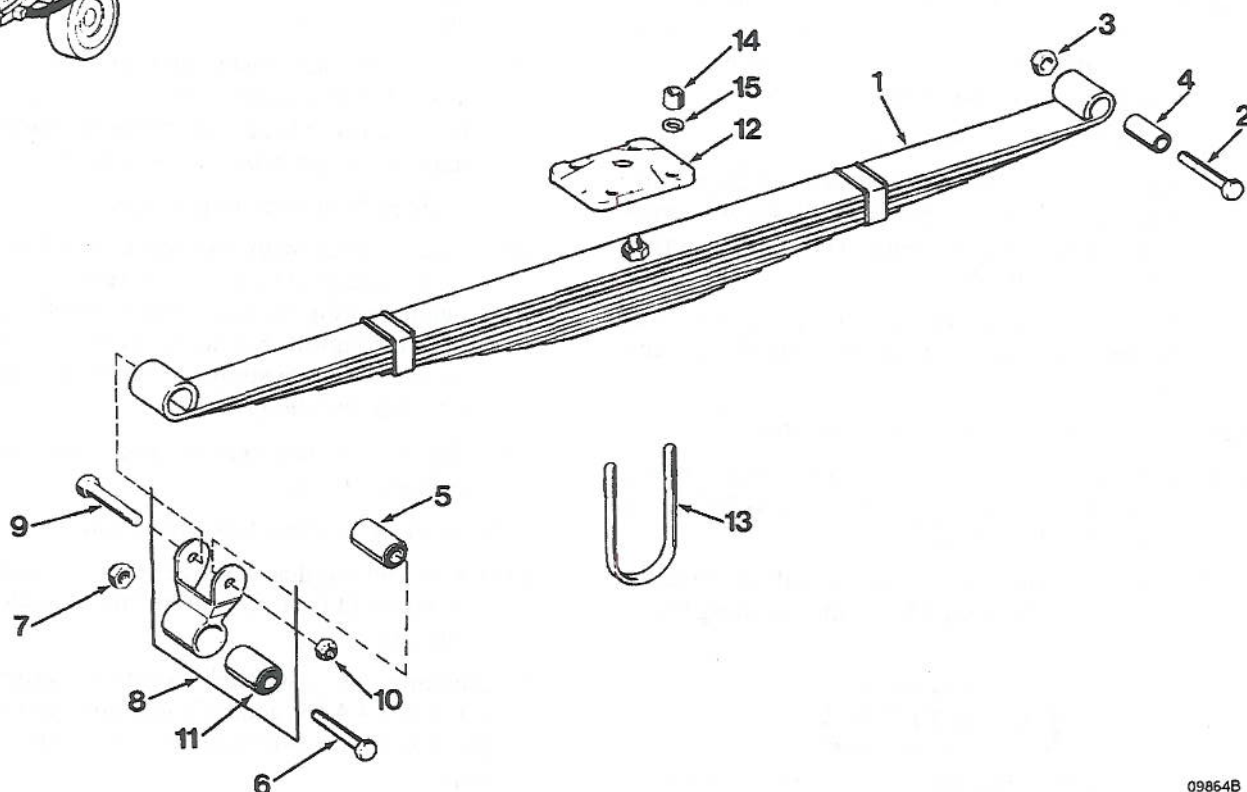
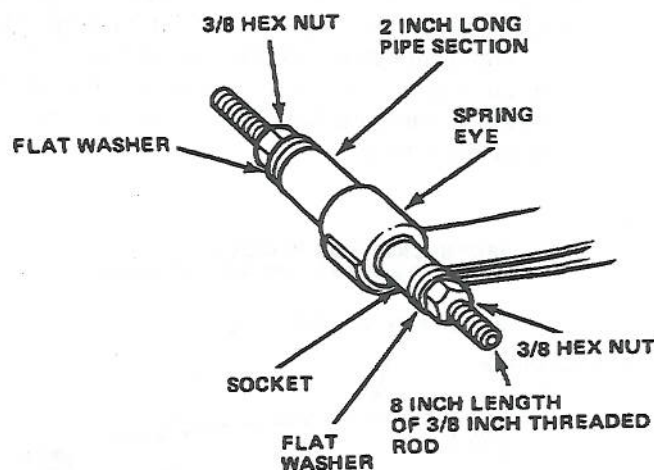
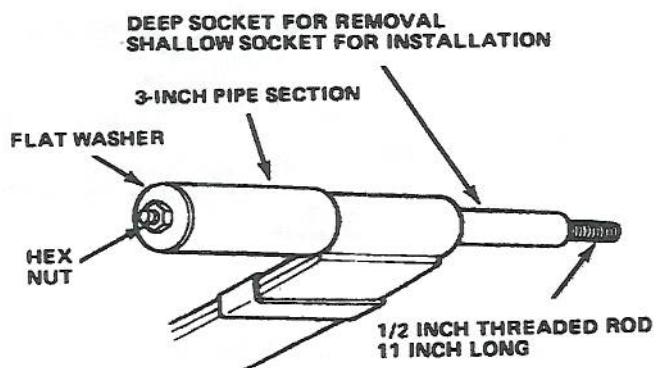

Figure 5-125. Rear Spring Group
Figure 5-126. Bushing Replacement Tools-Small Bushing
Figure 5-127. Bushing Replacement Tools
- (11) Refer to figure 5-126 to remove small bushing (4, figure 5-125) from rear spring as follows in steps (12) through (20).
- (12) Insert a 3/8 inch by 8 inch length of threaded rod through front bushing (4). Center bushing (4) on rod.
- (15) Install 2 inch length of pipe with diameter large enough to accommodate bushing (4), but small enough to seat firmly against spring (1) eye, on opposite end of threaded rod. Pipe will serve as bushing receiver.
- (16) Install one flat washer and one hex nut on rod to hold pipe section in place. Flat washer must be of large enough diameter to support and maintain alignment of pipe section.
- (17) Tighten both hex nuts, finger tight.
- (18) Align socket with bushing (4) and align pipe with spring (1) eye. Socket will act as a press ram and press the bushing (4) out of the spring (1) eye and into the pipe.
- (19) Tighten nut at socket end of spring eye until bushing (4) is pressed out of spring (1) eye into pipe.
- (20) Remove bushing tools and bushing (4).
- (21) Refer to figure 5-127 and remove large bushing (5, figure 5-125) from rear spring as follows in steps (22) through (30).
- (22) Insert 1/2 inch by 11 inch length of threaded rod through bushing (5). Center bushing (5) on rod.
- (1) Refer to figure 5-127 and install large bushing (5, figure 5-125) as follows in steps (2) through (10).
- (2) Center bushing (5) on 1/2 inch by 11 inch length of threaded rod. Slide 3 inch length of pipe over bushing (5). Pipe must be of diameter that will seat firmly against the spring (1) eye.
- (3) Place shallow socket of diameter small enough to pass through the pipe section, but large enough to bear against metal outer sleeve of bushing (5), on one end of threaded rod with open end of socket toward bushing (5). Socket will serve as bushing driver.
- (4) Install one flat washer and one hex nut on rod behind socket.
- (5) Insert rod through spring (1) eye. Seat pipe section firmly against spring (1) eye.
- (6) Install one flat washer and one hex nut on end of rod against spring (1) eye. Diameter of flat washer must exceed diameter of spring (1) eye.
- (7) Align socket with bushing (5) and align bushing (5) with spring (1) eye. The pipe section must butt against the spring (1) eye surface so bushing (5) can pass through it. Socket will act as a press ram and press the bushing (5) out of the pipe into the spring (1) eye.
- (8) Tighten nut at socket and press bushing (5) into spring (1) eye.
- (9) Loosen tools and check bushing (5) position. Bushing (5) must be centered in spring (1) eye. Ends of bushing (5) must be flush with or slightly inset from ends of spring (1) eye.
- (10) If bushing (5) is not centered, tighten tools and correct bushing (5) position. If it is centered, remove tools.
- (11) Use method described in steps (2) through (10) and install bushing (11) in shackle assembly (8).
- (12) Refer to figure 5-126 and install small bushing (4, figure 5-125) as follows in steps (13) through (21).
- (13) Center bushing (4) on 3/8 inch by 8 inch length of threaded rod. Slide 2 inch length of pipe over bushing (4). Pipe must be of diameter to seat firmly against spring (1) eye.